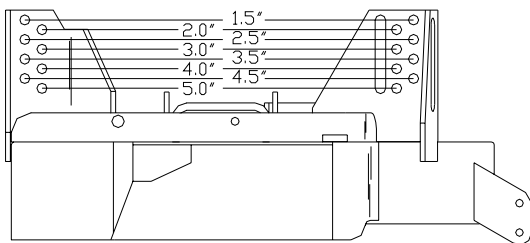

FIGURE 3a
2. The cutting height ranges from 1 $\frac{1}{2}$ " to 5.0" in $\frac{1}{2}$ " increments. (See Fig. 3a)